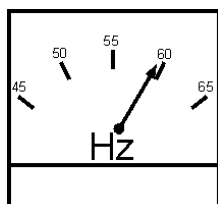

Figure 29. Frequency Meter (Hz)
10. The generator's frequency meter (Figure 29) displays the 60 cycle output frequency in **HERTZ**.